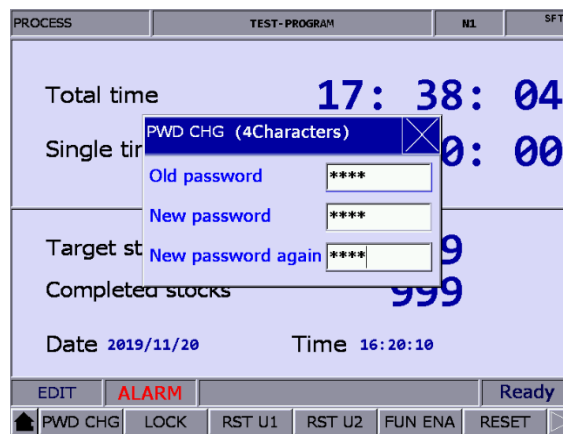

Figure 9.5.2.1
- (1) Press **DGN** to enter the DGN screen.
- (2) Press **PWD** to display the function bar of password setting.
- (3) Press **M SCP** to switch to the function bar of machine permission.
- (4) Press **PWD CHG** and a dialog box appears as shown in Figure 9.5.2.1. Enter the old password and the new password. Then, enter the new password again for confirmation.
- (5) Press **ENTER** to complete changing the password.